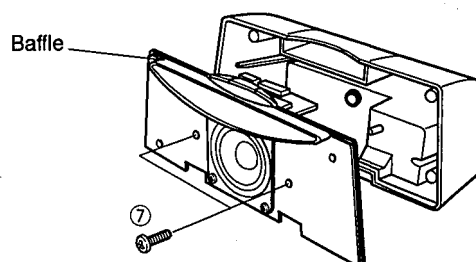

Fig. 6
- b. Remove 2 screws (⑦) and then remove the Baffle in Fig. 6.